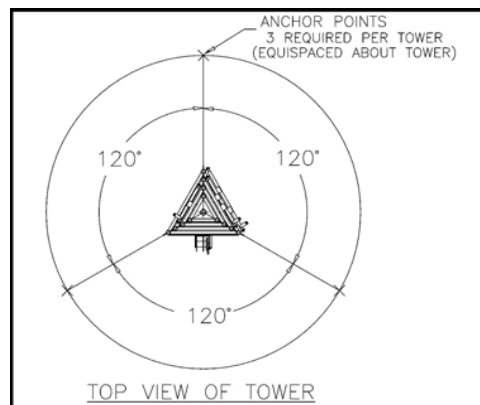
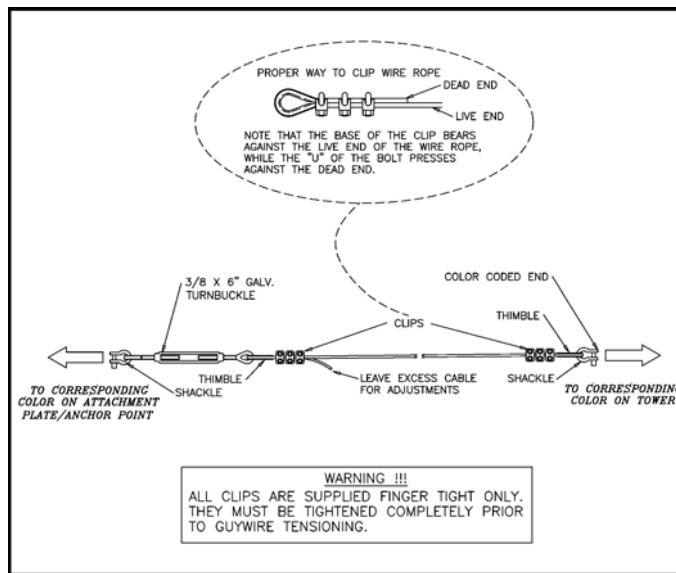

Fig. 4 Standard Guy Wire Anchor Points
Fig. 6 Proper Guy Wire Configuration
1. Locate the Trailer/Tower unit in a place that will allow the following radius around the tower: 70 foot radius for the T-100H & T-100UGH towers; 60 foot radius for T-85UGH tower; 55 foot radius for the T-75H tower; and a 40 foot radius for the T-50H tower. Mark the location (120 degrees apart) of each anchor point (*see Fig. 4*). Refer to the enclosed appropriate guy wire drawing specifications for your specific model. As an alternate, the Model GA-1 or GA-2 helical screw type guy anchors or CGA-1680 concrete type ground anchors can be used.
5. Attach the color coded ends of the guy wires to the corresponding color coded guy ears at the top of each section of the tower, using the screw pin shackle (*see Fig. 6*). Be sure to tighten the screw pin shackle with pliers. Lay the appropriate sets of three each guy wires in the general direction to which they will be anchored. (*see Fig. 4*). See below if ***"Erecting the Tower at Less Than Full Height"***.
Attach the blue color coded ends of the guy wires to the corresponding blue color coded guy ears at the top of the bottom section of the tower. Attach the **yellow** color coded ends of the guy wires to the **red** color coded guy ears at the top of the top section of the tower, using the screw pin shackle (*see Fig. 6*). Be sure to tighten the screw pin shackle with a wrench. Lay the appropriate sets of three each guy wires in the general direction to which they will be anchored. **(DO NOT attach guy wires to the middle section of the tower).**
Attach the green color coded ends of the guy wires to the corresponding green color coded guy ears at the top of the bottom section of the tower. Attach the **blue** color coded ends of the guy wires to the **red** color coded guy ears at the top of the top section of the tower, using the screw pin shackle (*see Fig. 6*). Be sure to tighten the screw pin shackle with a wrench. Lay the appropriate sets of three each guy wires in the general direction to which they will be anchored. **(DO NOT attach guy wires to the middle section of the tower).**